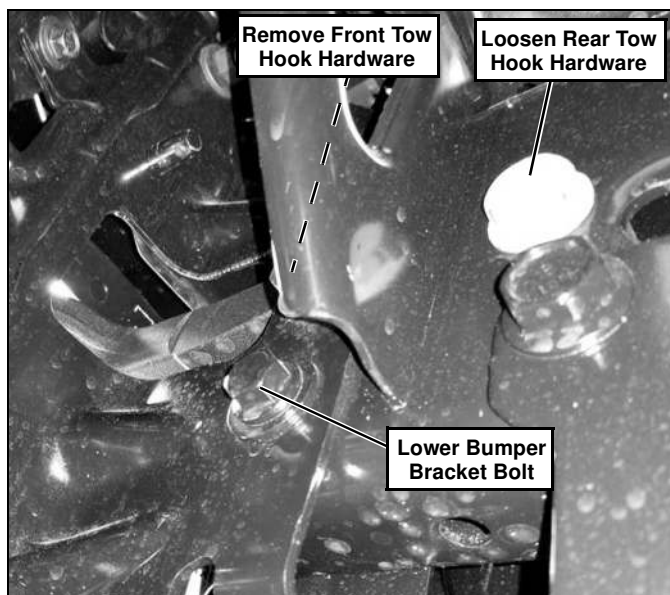

Figure 2
- For the driver and passenger side, loosen the rear tow hook hardware and remove the front. Also, remove the lower bumper bracket hardware. (See Figure 2.) Keep the hardware for installation on truck if subframe is removed.